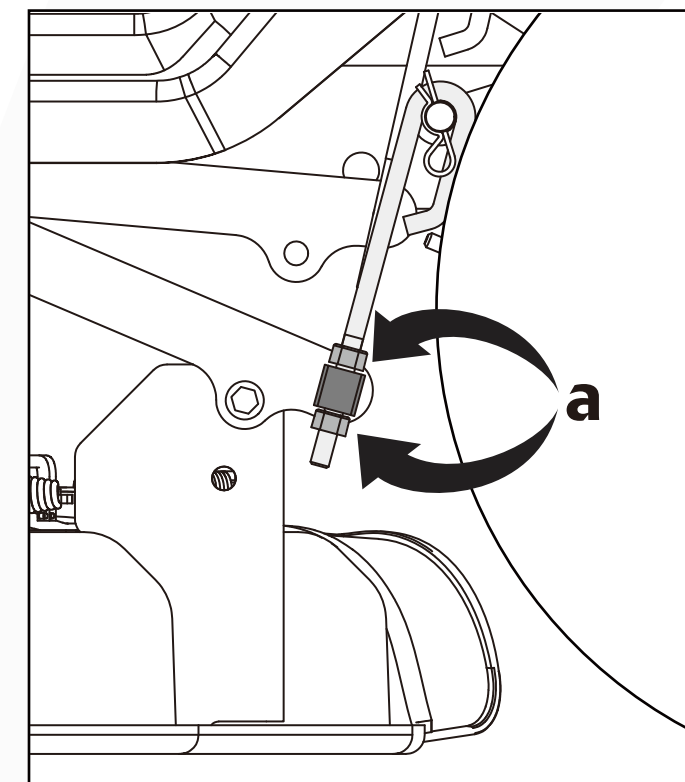

Fig. 29
3. Turn the adjustment nuts up to raise or down to lower the left side of the cutting deck. (a, Fig. 29)